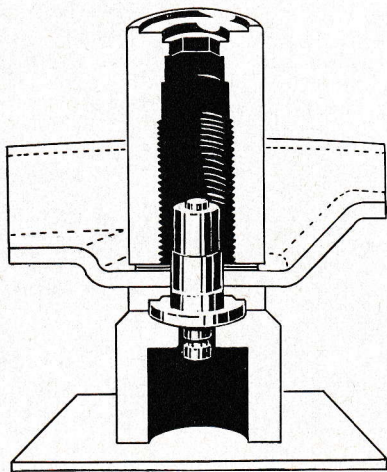

Fig. 26. Fitting the washers.
2. Turn the cushioning sleeve and place a new stud above it. Fit the adjusting cam (4), brake backing plate (1), spacing washer (3) and the internally toothed washer (2) over the stud. Press down the washers with the help of the staving tool, see Fig. 26.